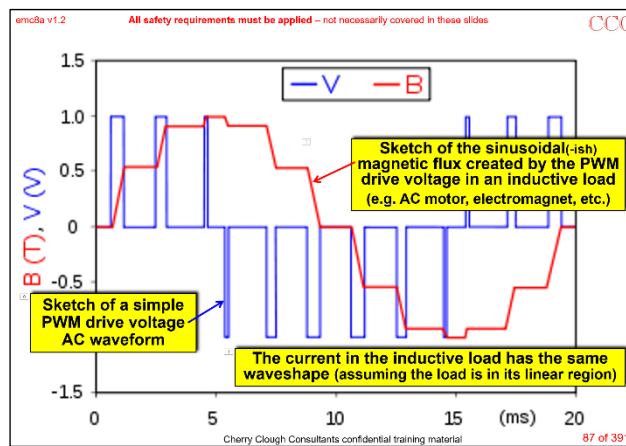
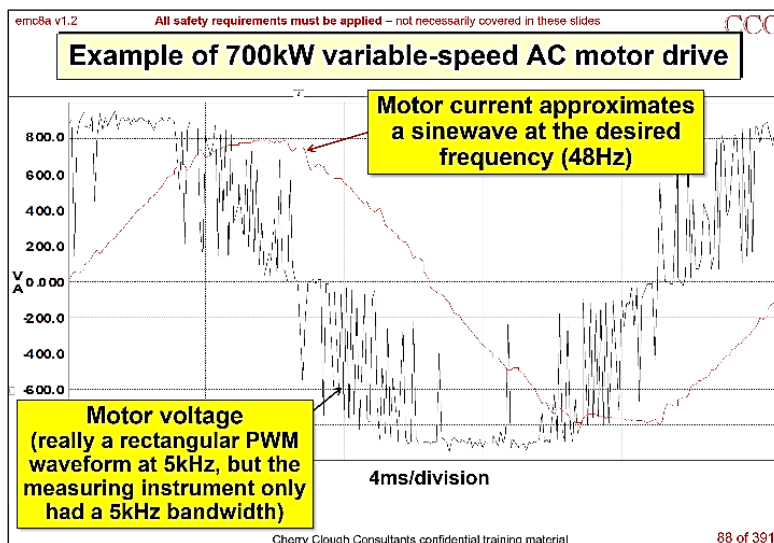

Figure 1: Simplified example of a PWM switching waveform being reconstructed into a sinewave current and B-field in a sufficiently large load inductance
Figure 2: An actual measurement of motor current with PWM VSD
Figure 1 sketches a PWM voltage (V , in blue) giving rise to an approximately sine-wave magnetic flux (B , in red) in a motor winding. The red 'B' curve has the same shape as VSD output current that flows in the winding.
Figure 1 looks very clean and nice because it is an instructional sketch, whilst Figure 2 is an example of what you might see in practice.
Both Figures 1 and 2 show the Differential-Mode (DM) power that we use to spin the motor. Unfortunately, we can't entirely avoid having imperfections – stray resistances, capacitances and inductances – in the motor cable's conductors; the motor's windings and metal frame, and not least within the VSD itself. These imperfections cause unwanted stray currents to flow in them all, which we call "Common-Mode" (CM) noises.